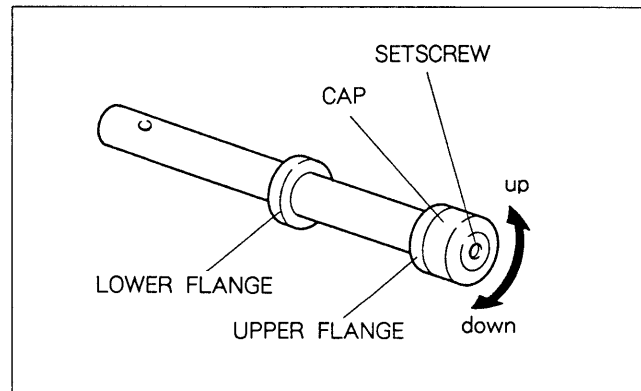

Fig. 9-3-5. Guide Post 1 Height Adjustment
2. **Guide Post 1 Height Adjustment (See Fig. 9-3-5.)**